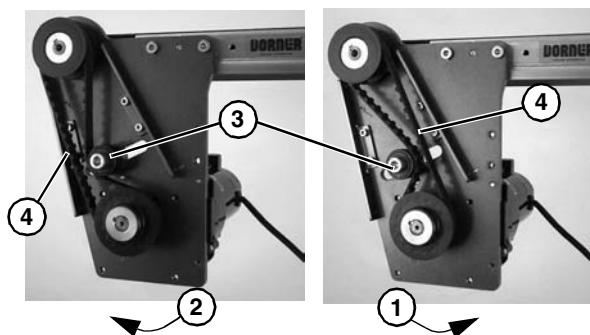

Figure 15
10. Depending on direction of conveyor belt travel (1 or 2 of Figure 15, position timing belt tensioner (Figure 15, item 3) as shown. Tension timing belt to obtain 1/8" (3 mm) deflection for 1 lb (456 grams) of force at timing belt mid-point (Figure 15, item 4). Tighten tensioner screw to 106 in-lb (12 Nm).